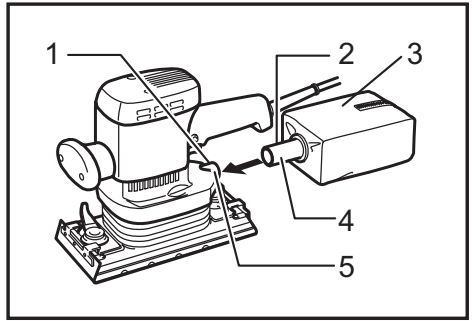

Fig.5
► Fig.5: 1. Mark 2. Mark 3. Dust bag 4. Entry port 5. Dust spout